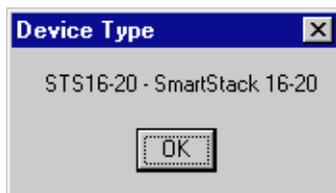

Figure 2-5. Sample Device Type Window
2. Click on **Device Type**. A Device Type window, similar to the one shown in Figure 2-5, will appear.